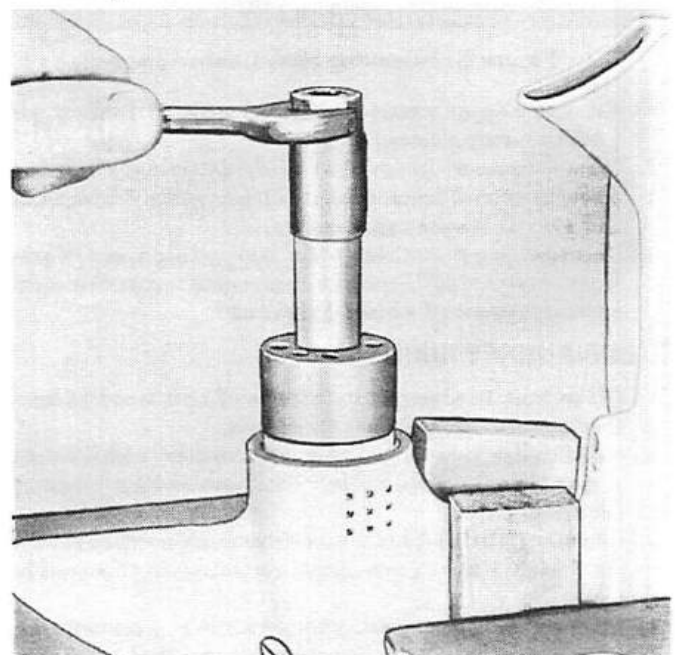

Figure 6. Removing Gear Case Cover
4. Remove gear case cover (left hand thread) with Water Pump Tool (91-24267). Set dowels in cover holes, apply wrench to flats of tool and turn. (Figure 6)